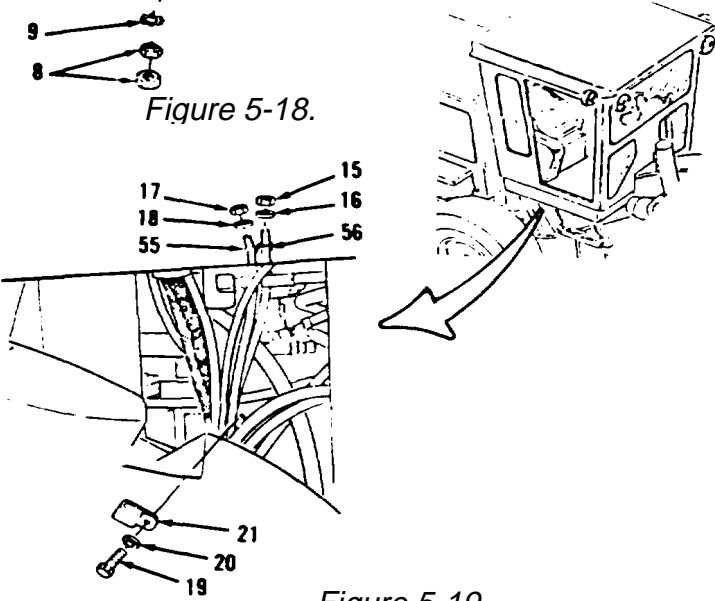

Figure 5-19.
8. Remove lockwasher (15), nut (16), lockwasher (17) and nut (18, Figure 5-19).
9. Remove bolt (19), washer (20) and clip (21) from under right side of cab.